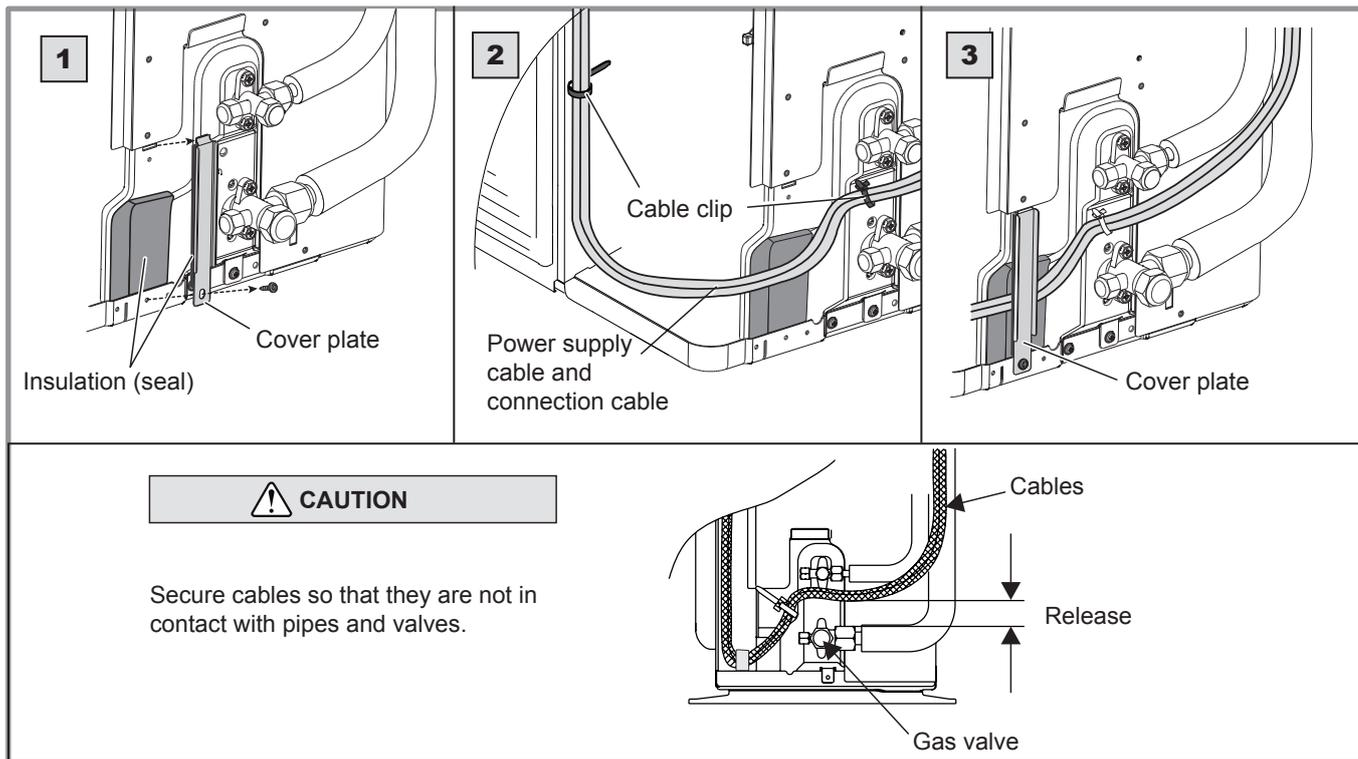

figure 33 - Finalisation of connection to single phase outdoor unit
- Use the mounting plate to hold the cables against the insulating plate. (figure 33).